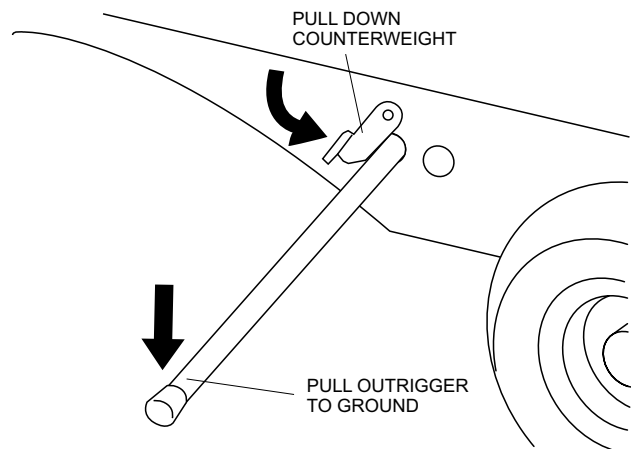

Figure 15. Locking Deployed Outrigger
2. Pull the outrigger down until it touches the ground. Pull down counterweight to lock the outrigger in place. See Figure 15.